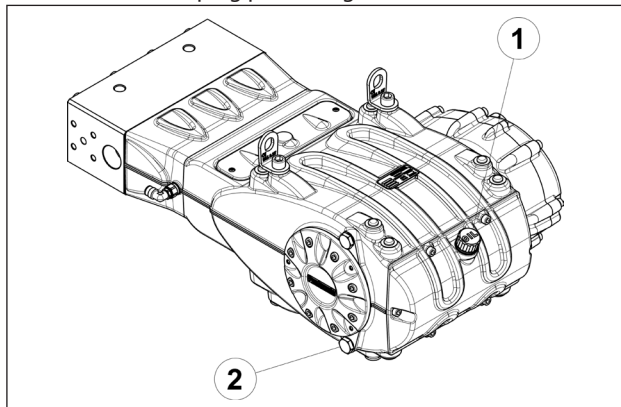

Fig. 1
To remove oil, you must remove the oil filler cap pos. ①, Fig. 1 and then the drain plug pos. ②, Fig. 1.